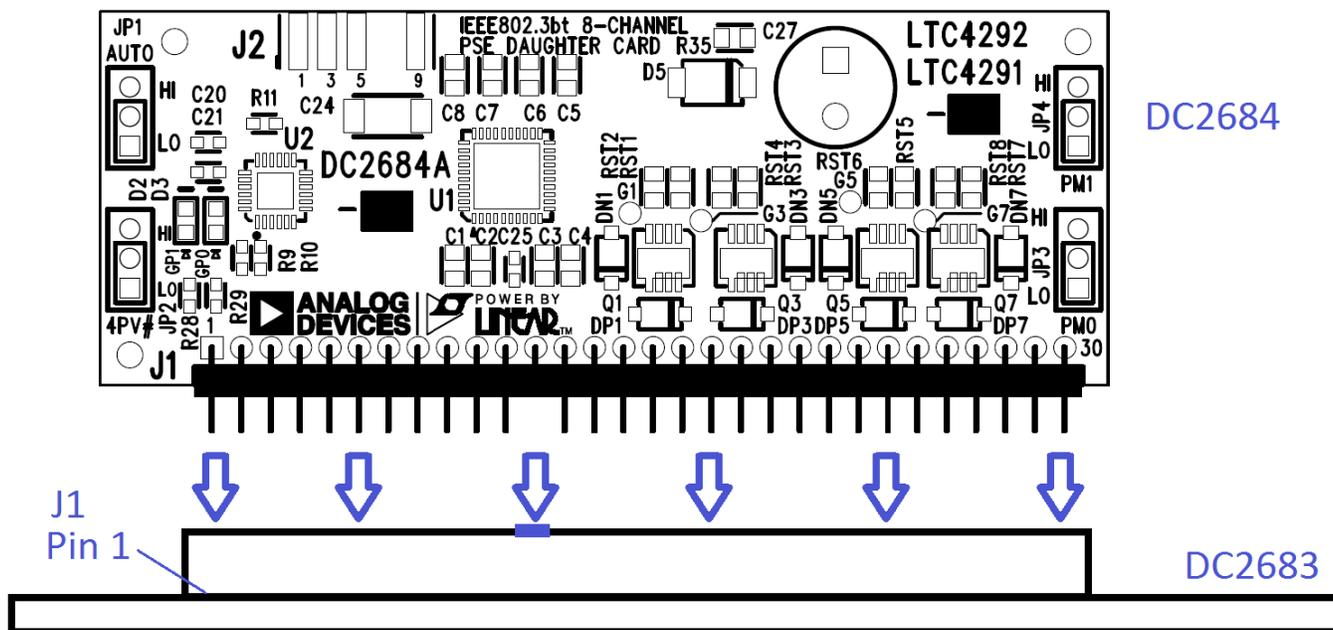

Figure 2. Inserting the DC2684A-B Daughter Card Into J7 of the DC2683A Motherboard
4. Align pin 1 of the 30-pin male connector on the DC2684A-B daughter card with pin 1 of the 30-pin female connector on the DC2683A motherboard as shown in Figure 2. Pin 12 is polarized to assist with the alignment. Carefully push the daughter card straight down until the male and female 30-pin connectors are flush with each other.